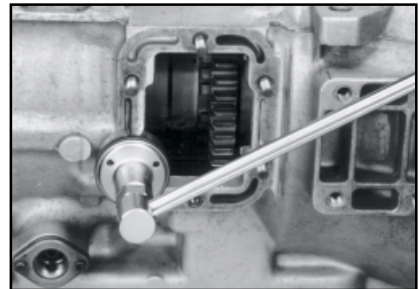

Figure 4
4. Tighten the studs to 17 - 19 ft. lbs. (2.38 - 2.66 kg. meters) and then torque the capscrews to 32 - 37 ft. lbs. (4.43 - 5.12 kg. meters) for the 6 or 8 bolts (Fig 4).